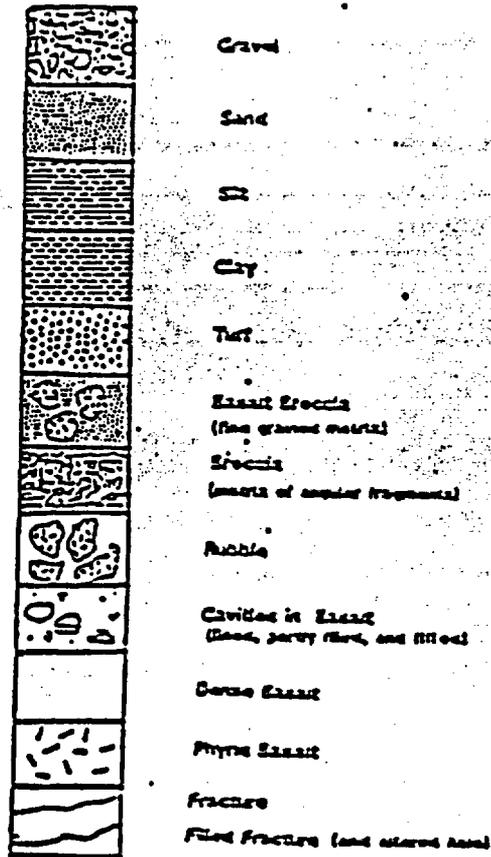

Figure 3. Graphic Log Symbols.
7. Graphic Log. Provide a summary graphic depiction of chips or sediment samples where possible. Enter "NC" if no graphic description is possible. See figure 3 for graphic symbols to be used.